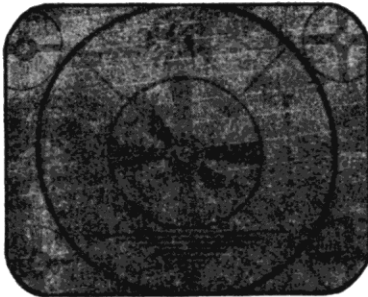

Figure 4. Insufficient contrast, readjust CONTRAST and BRIGHTNESS.
- Better pictures may sometimes be obtained by changing the settings of the BRIGHTNESS and CONTRAST controls. See Figures 4, 5 and 7. Set the BRIGHTNESS control at a slightly different position and then adjust the CONTRAST control for best reception. Try several such control settings to deter-